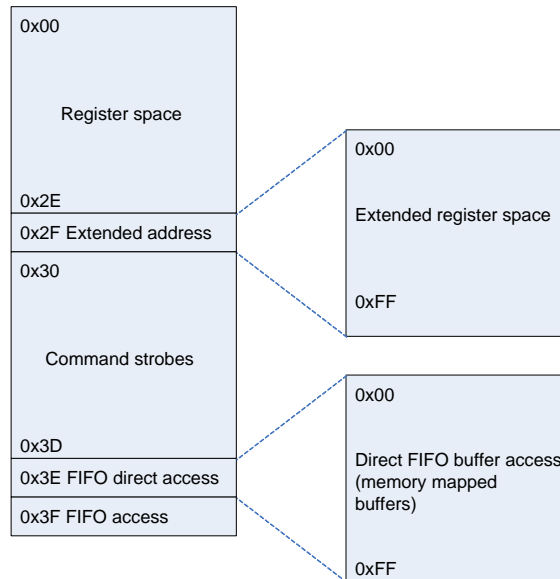

Figure 4: SPI Memory Map
Figure 4 shows the SPI memory map and the following sections are going to explain how the different SPI access types (see Table 3) should be used. Table 4 shows the SPI address space.
The configuration registers on the **CC112K** are located on SPI addresses from 0x00 to 0x2E (register space) with address extension command at address 0x2F to access the extended register space (see Figure 4). All configuration registers can be both written to and read and this is controlled by the R/W bit in the header byte. All configuration registers can also be accessed with the burst bit (B) set to either 1 or 0. Note that all registers in register space (address 0x00 - 0x2E) have retention. In extended register space, the status register do not have retention. Please see Table 5 for details.